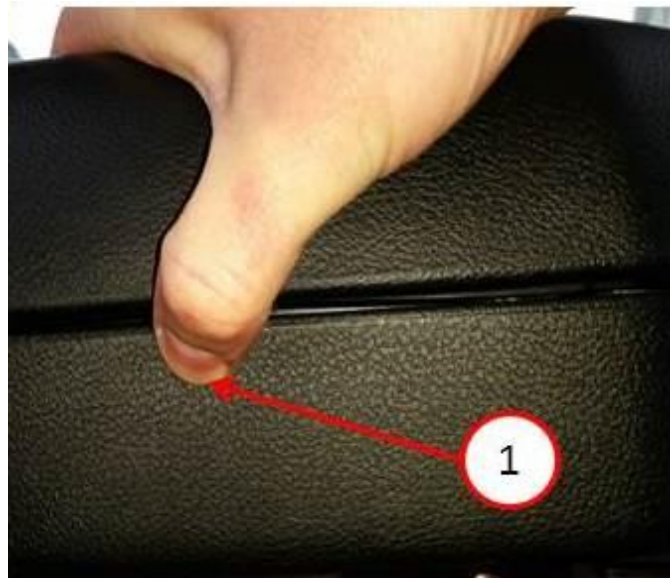

Fig. 8 Bumper Installation Continued
12. To assist the installation of the bumper, press the back wall of the lower lid to relieve some tension while inserting the bumper as shown in (Fig. 8).